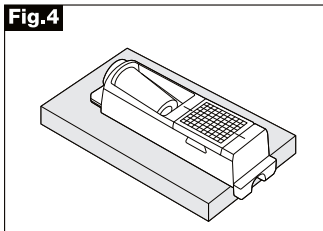

Fig.4a
- For standard work, slide adjuster face down (fig. 4a)